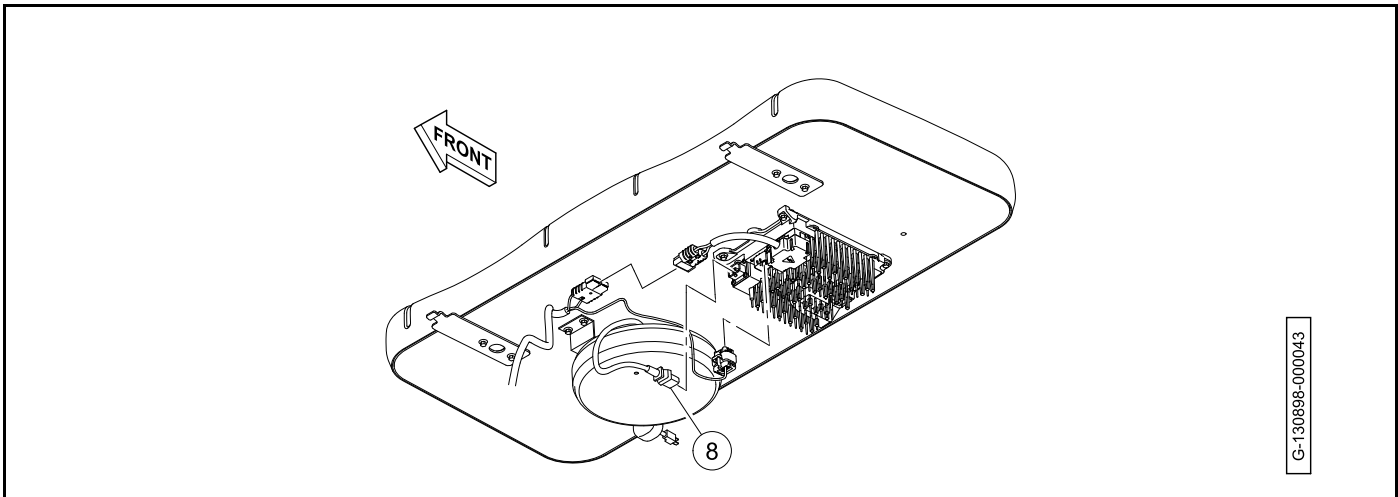

Figure 15-39 AC Cord Installation
4. Connect the 14-pin connector (7) to the battery charger.
5. Connect the AC cord (8) to battery charger (**Figure 15-39**).